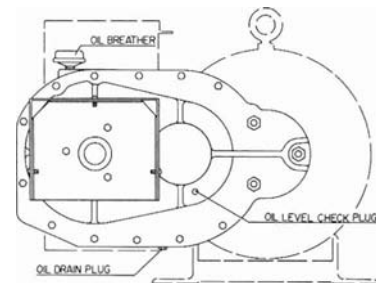

Figure 5
2. Check gear case oil level. See Figure 5. Case should be filled with oil to plug marked "OIL LEVEL." Fill or remove oil as required.
Check the generator gear case oil level before each use of the generator. Maintain the oil level at oil level plug height. *Figure 5* illustrates oil level plug location. The generator is shipped with lubricant in the gear case. Specifications for gear case lubricant are:
Use the following procedure to change generator gear case oil. See *Figure 5*.